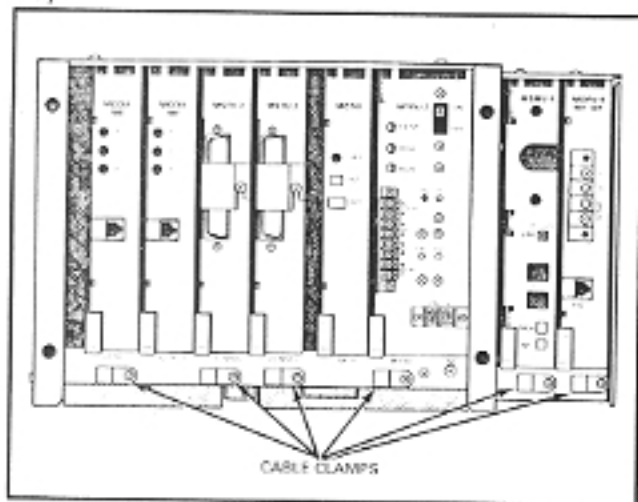
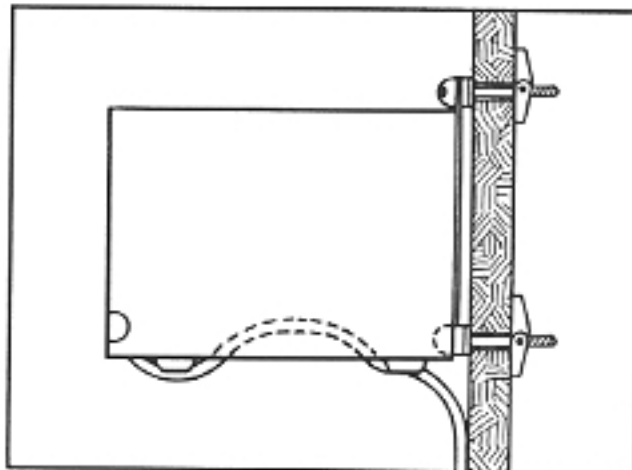

FIGURE 19—CABLE CLAMPS
FIGURE 20—CABLE ROUTING
07.02 A 25-pair male-amphenol-ended cable is connected directly to the front of each MSTU and fastened with the provided metal bracket (Figure 19).
07.03 Secure the cables to the bottom of the MKSU shelf (Figure 19) with the provided plastic cable clamps. Route the cables under the MKSU and toward the rear, as shown in Figure 20.